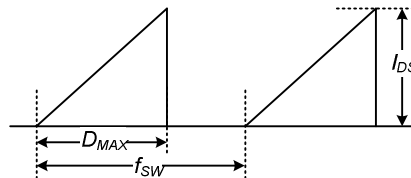

Figure 4. Repetitive Peak Switching Current
6. Repetitive peak switching current when the inductive load is assumed: Limited by maximum duty (D_{MAX}=0.75) and junction temperature (see Figure 4).